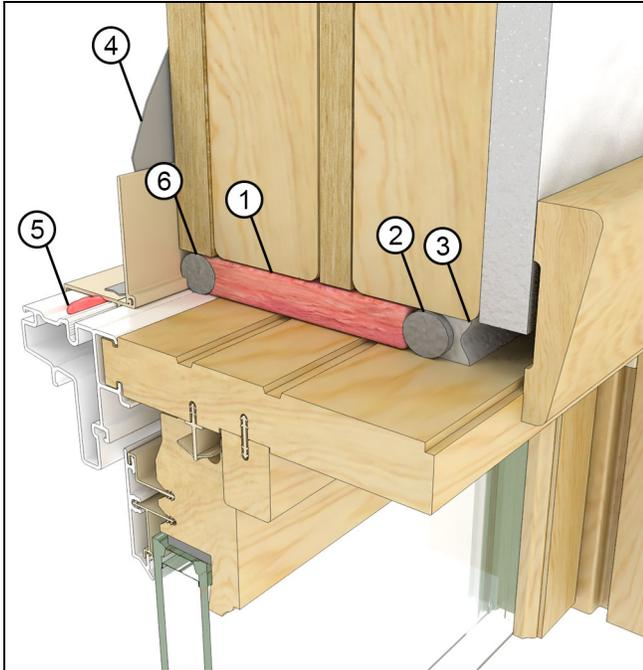

Figure 63
**1. Loose Fill Fiberglass Insulation.** Insulate the RO cavity with loose fill fiberglass insulation. Install a backer rod and sealant at the interior plane of the RO to create a continuous air seal. See Figure 63.